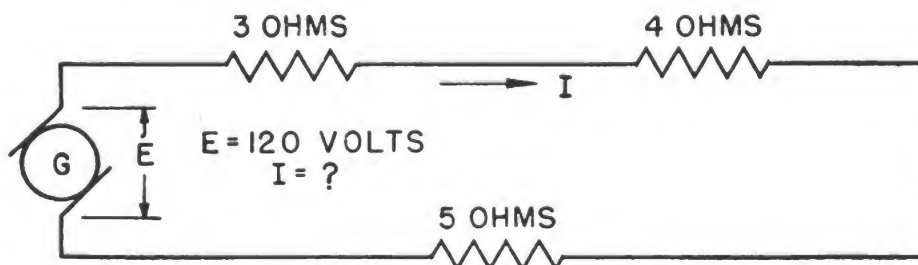

Figure 15.—A series circuit problem.
1. The generator in figure 15 produces an emf of 120 volts, and the circuit contains resistors of 3, 4, and 5 ohms. What is the current?